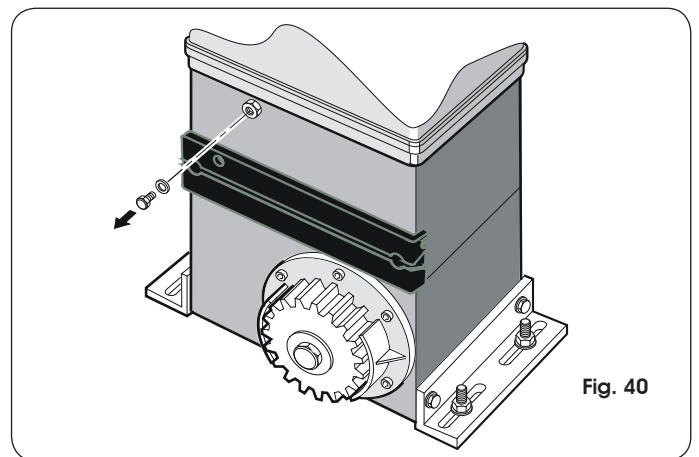

Fig. 40
- Remove the vent screw (Fig. 40).